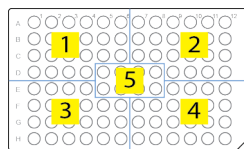

Figure 28 Plate vortexing.
- Plates: Vortex for 1 to 3 seconds in all corners and in center (Figure 28), repeat once for high volume reagents: PCR (100 μL), hybridization-ready samples (131 μL)